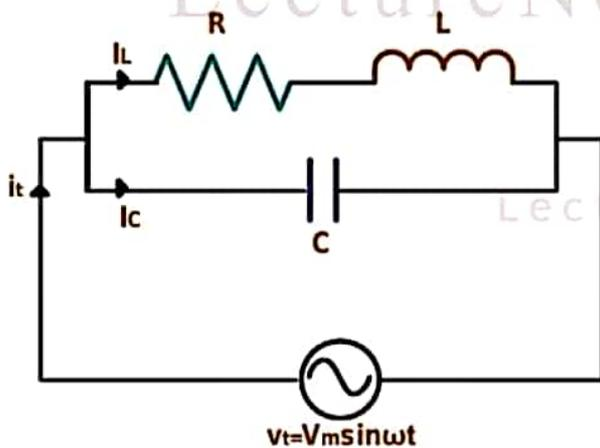

Figure 2.41 Circuit Diagram of Parallel Resonance RLC Circuit
- Fig. 2.41 Shows a parallel circuit consisting of an inductive coil with internal resistance R ohm and inductance L henry in parallel with capacitor C farads: